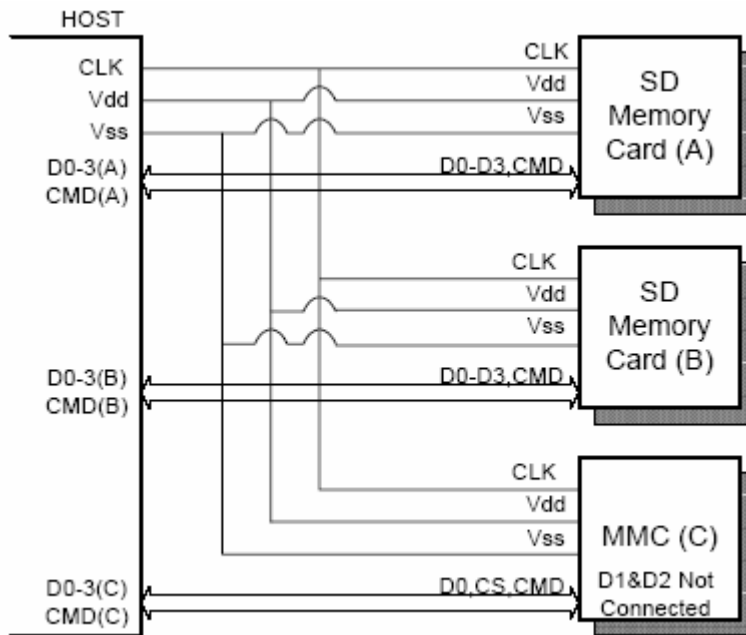

Fig 3 - microSD Card (SD Mode) Connection Diagram
- Fig 3 - microSD Card (SD Mode) Connection Diagram